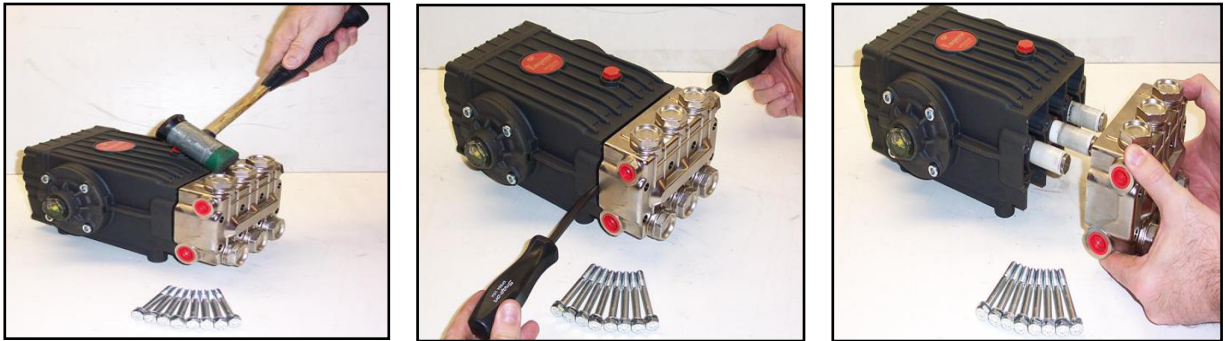

Figure 7. Separate Manifold from Crankcase
11. Separate manifold from crankcase (see Figure 7).